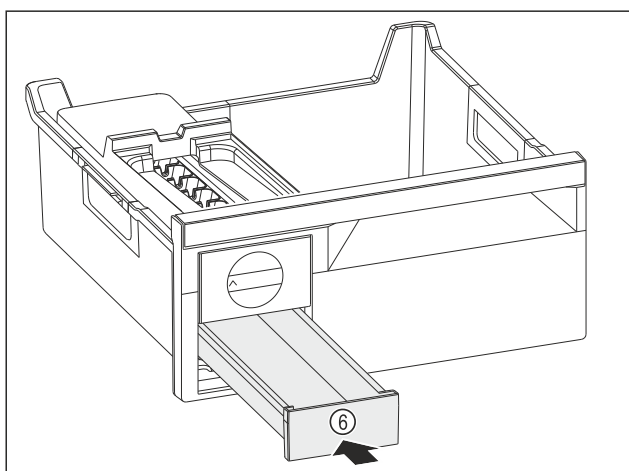

Fig. 110
- Insert the ice cube drawer Fig. 110 (6).